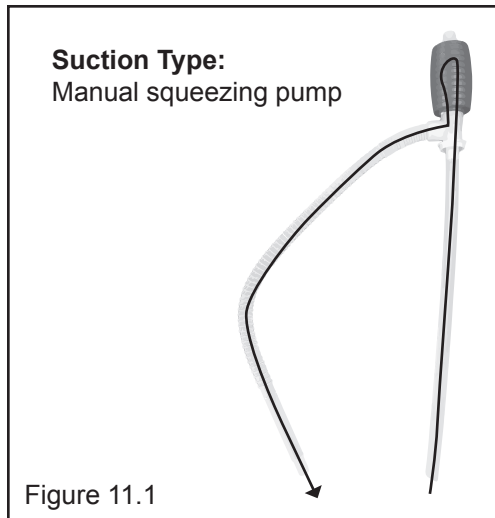

Figure 11.1
2. Using an approved siphon (Figure 11.1), remove the kerosene or diesel.